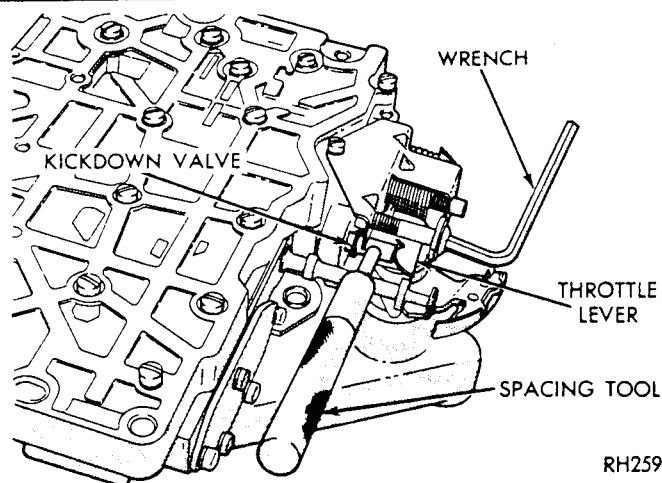

Fig. 7—Throttle Pressure Adjustment
(1) Insert gauge pin of Tool C-3763 between the throttle lever cam and kickdown valve (Fig. 7).
(2) By pushing in on tool, compress kickdown valve against its spring so throttle valve is completely bottomed inside the valve body.
(3) As force is being exerted to compress spring, turn throttle lever stop screw with allen wrench until head of screw touches the throttle lever tang with throttle lever cam touching tool and the throttle valve bottomed. Be sure adjustment is made with spring fully compressed and valve bottomed in the valve body.